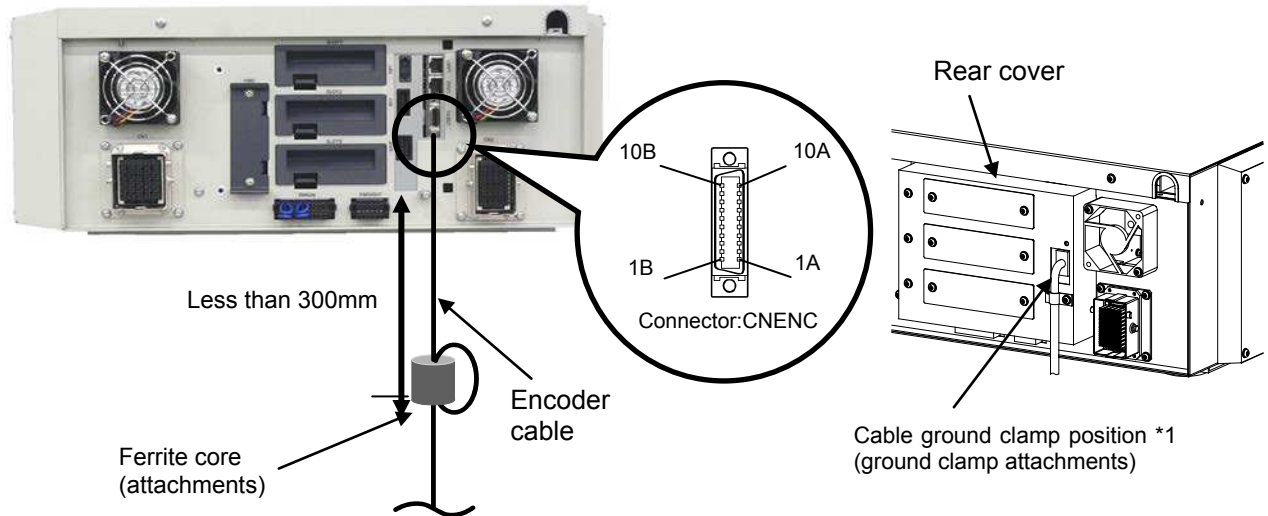

Figure 10-9 Installation of encoder cable (CR2D-700 series)
*CR2D-700 series: "Figure 10-9 Installation of encoder cable (CR2D-700 series) "